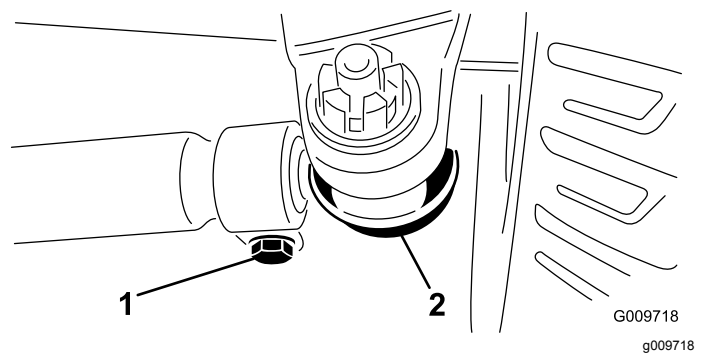

Figure 54
2. To adjust, remove the cotter pin and nut from either tie-rod ball joint (Figure 54).
4. Loosen the clamps at both ends of the tie rods (Figure 54).